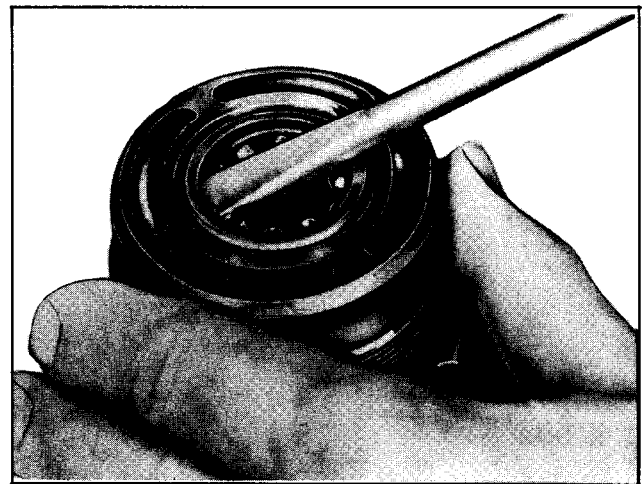

Fig. 9-71 Removing Lower Bearing Retainer from Adjuster Plug
10. Where applicable use a suitable size screw driver to pry the lower bearing retainer from the adjuster plug housing and remove the bearing (Fig. 9-71).